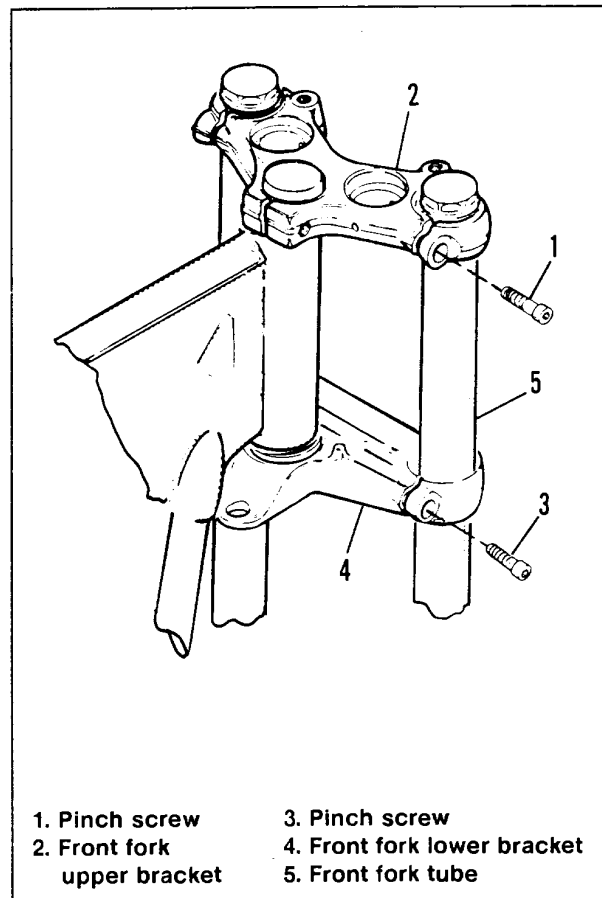
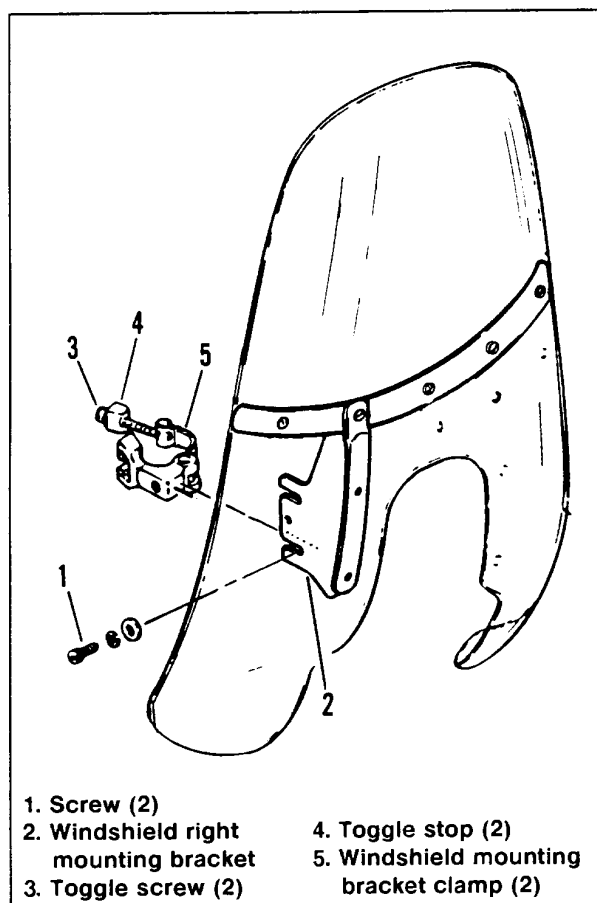

Figure 1. Original Front Fork Bracket Pinch Screws
Figure 5. FXRS-Convertible Windshield -- Right Side
1. See Figure 1. Remove original hex socket head pinch screw (1) from right side of front fork upper bracket (2).
- See Figure 1. Remove original hex socket head pinch screw (1) from right side of front fork upper bracket (2).
- Repeat Step 1 for original hex socket head pinch screw (3) on right side of front fork lower bracket (4).
- See Figure 5. Remove both original socket head screws (1) with washers from windshield right mounting bracket (2); discard fasteners. Lift windshield/mounting bracket assembly away from both windshield mounting bracket clamps (5) on right front fork tube.